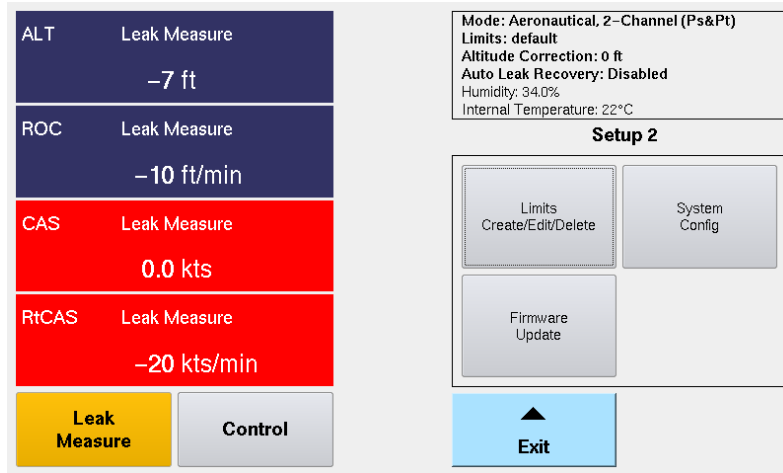

Figure G. 3 Setup 2 Screen
- On the numbered keypad, enter the user **PIN** code (default code is “123456”). Touch “Enter”, “Setup 2” screen is displayed (Fig. G. 3).